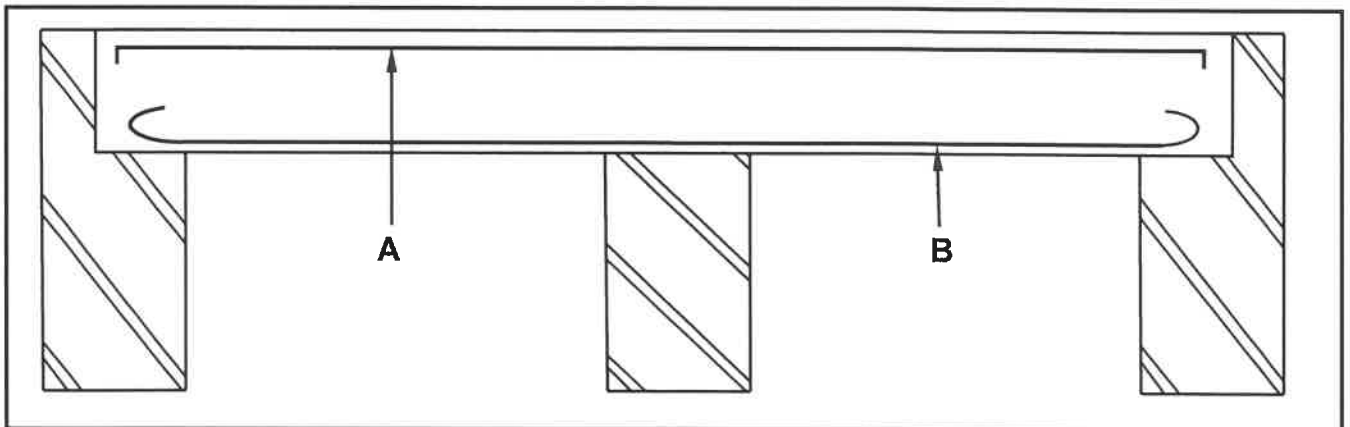

FIGURE 6.4
6.4 FIGURE 6.4 below shows an incomplete vertical sectional view through a continuously supported beam.